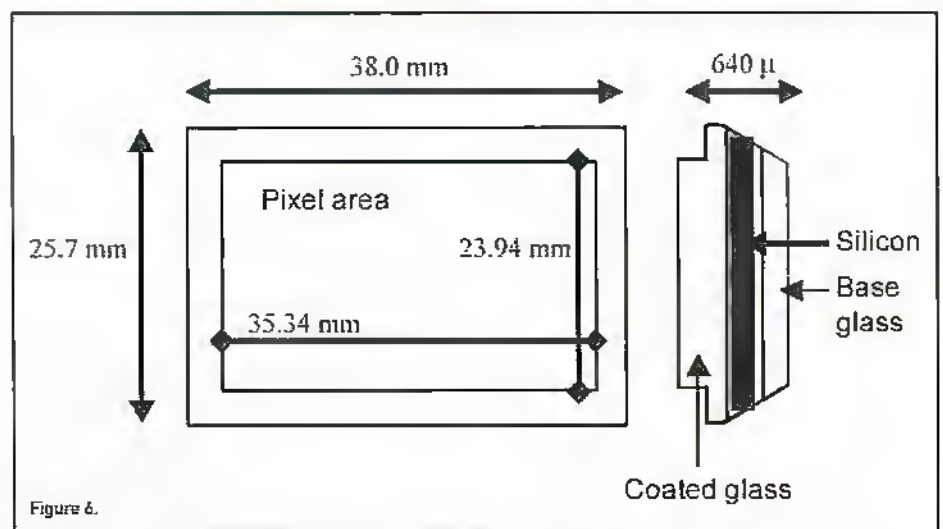

Figure 6.
11.4x11.4 microns. It is said to be particularly suitable for integration in upmarket 35mm, medium and large format photographic equipment; and was shown at Photokina 2000 in a medium format back. Its ultra-thin packaging will allow it to fit exactly into the focal plane of a standard 35mm camera (see Figure 6). CreoScitex collaborated with FillFactory for the design of the APS CMOS, with Tower Semiconductor for wafer fabrication and ShellCase for the packaging. The technology is scalable so larger and smaller devices can be expected.